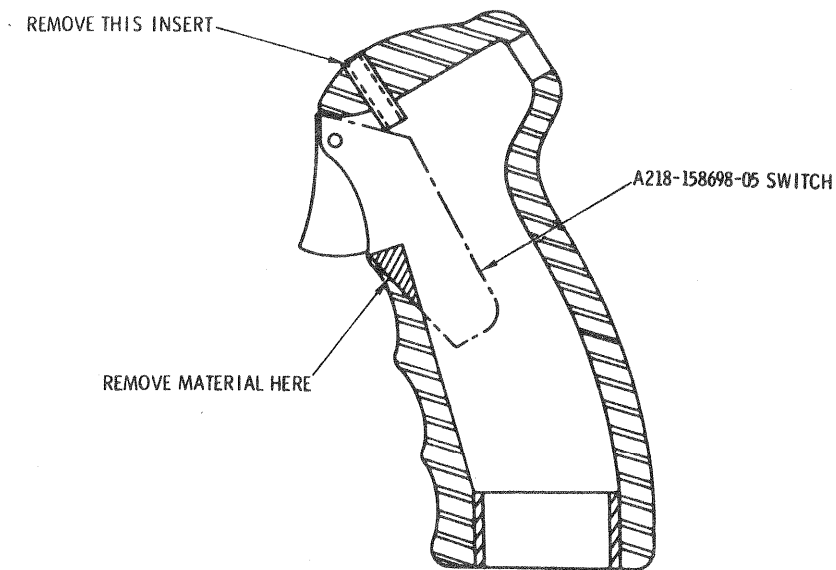

Figure 1. Rework of cyclic pitch stick grip assembly
- i. Rework cyclic grip as follows: (See Figure 1)